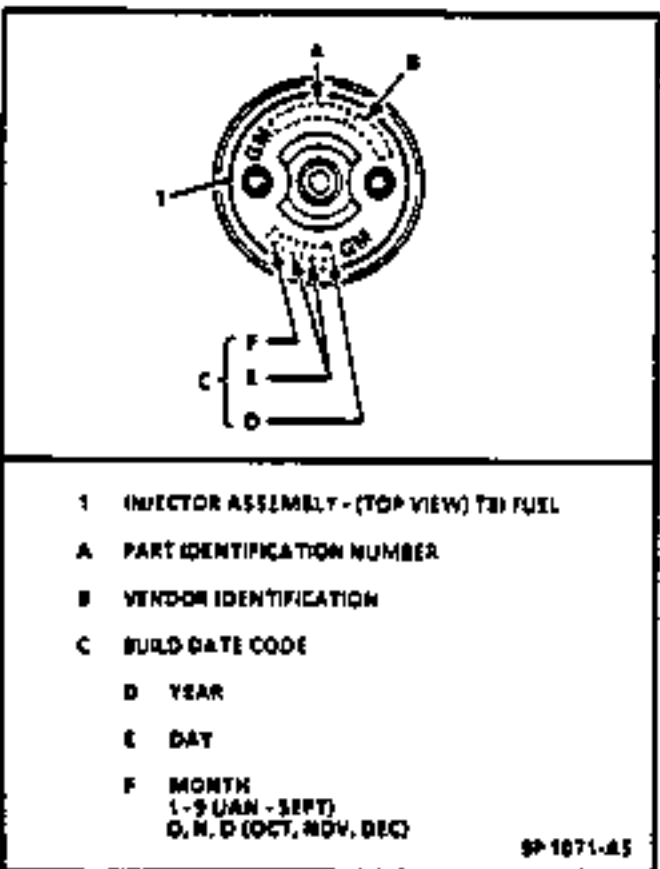

Figure 23 - Fuel injector Part Number Location
- 2 THROTTLE POSITION (TP) SENSOR
- ◆ **Important** Be sure to replace the injector with one having an identical part number. Injectors from other models can also fit in the TBI, but are calibrated for different flow rates. (Refer to Figure 23 for part number location.)